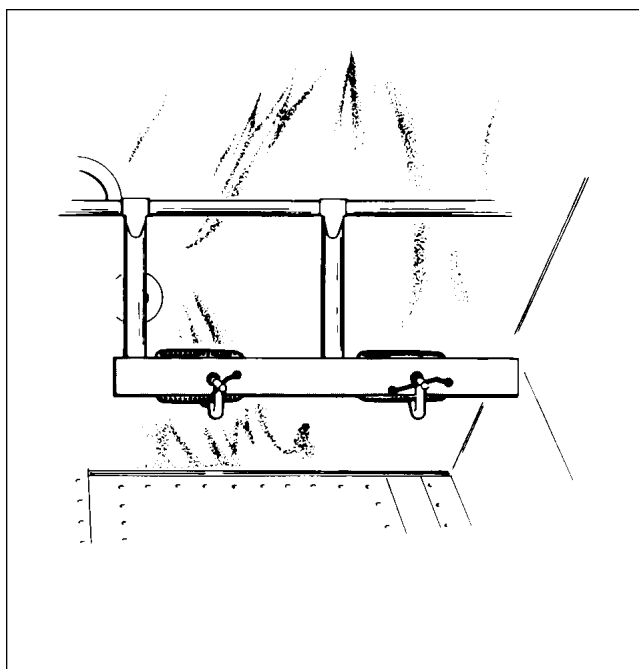

Figure 27-16. Clamping Rudder Pedals
- c. Clamp rudder pedals to align in lateral position per Figure 27-16.